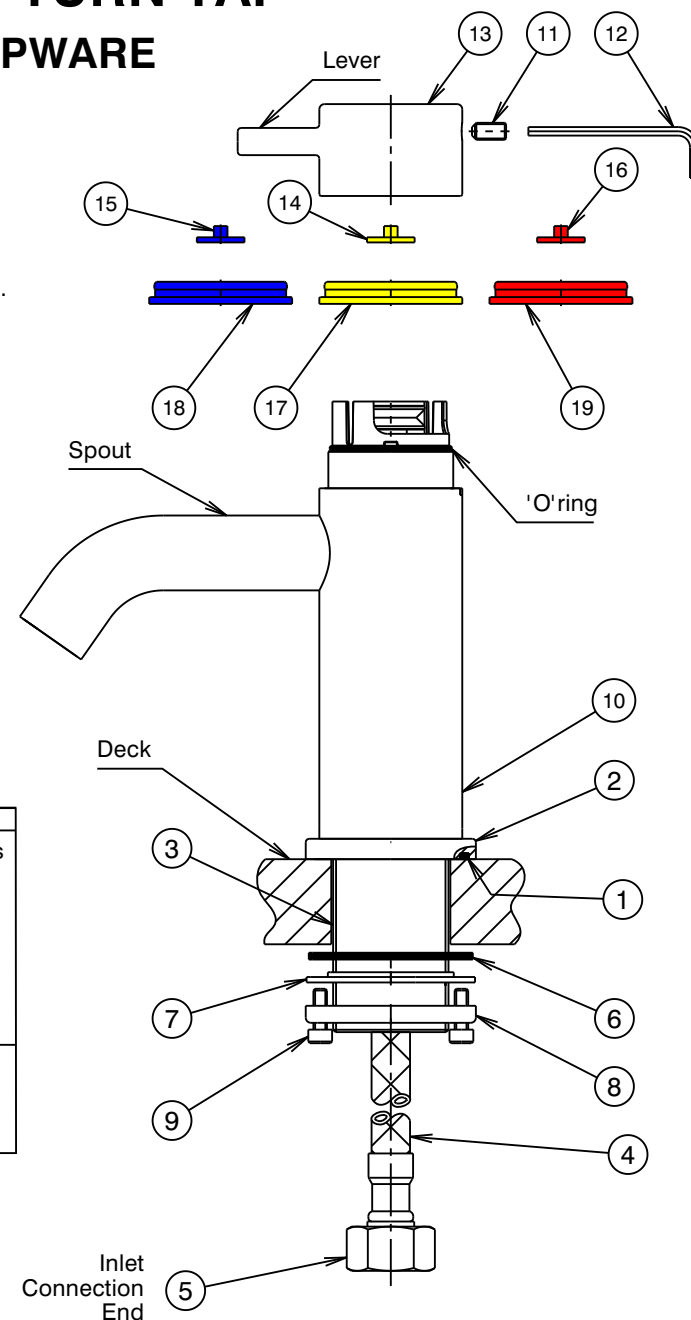

Fig. 1
- 1) From fixing pack fit 'O'ring (1) into groove in base ring (2). Slide the base ring over the threaded tube (3) & locate spigot of base ring (2) into base of tap body (10), as shown.
- 2) Insert the inlet connection end (5) of flexible hose (4) through the hole in the deck. Fit tap (10) into deck hole, fit washer (7) together with flat seal (6) over threaded tube (3) of tap (10) as shown (Fig.1). Screw clamp ring (8) onto threaded tube (3) until it contacts washer (7) & the flat seal (6) has contacted the underside of the deck. Tighten two screws (9) using a 3mm torx key until mixer assembly is clamped firmly to the deck. **DO NOT OVERTIGHTEN.**
- 3) Connect the flexible hose (4) to the isolating stop tap, hand tighten the fixing nut (5) until rubber cone contacts the sealing face of the connection end, then tighten a further one turn to provide a watertight joint.
- 1) Loosen grub screw (11) using the 2.5mm torx key (12). Remove handle (14) fitted with yellow bottom indicator (17).
- 2) Remove yellow top indicator (14) from handle (13). Pull yellow bottom indicator (17) out with fingers from handle (13).
- 3) If cold water indicator is needed, push the blue bottom indicator (18) into handle (13) until indicator completely against underside of handle (13). Fit blue top indicator (15) into handle then fit handle assembly onto tap (10) up to the handle stop. With the cartridge closed (anticlockwise) align handle lever with outlet spout as shown (Fig. 1), tighten grub screw (11) using 2.5mm torx key (12).
- If hot water needed, push red bottom indicator (19) into handle (13) until indicator completely against underside of handle (13). Fit red top indicator (16) into handle then fit handle assembly onto tap (10) up to the handle stop. With the cartridge closed (anticlockwise) align handle lever with outlet spout as shown (Fig. 1), tighten grub screw (11) using 2.5mm torx key (12).